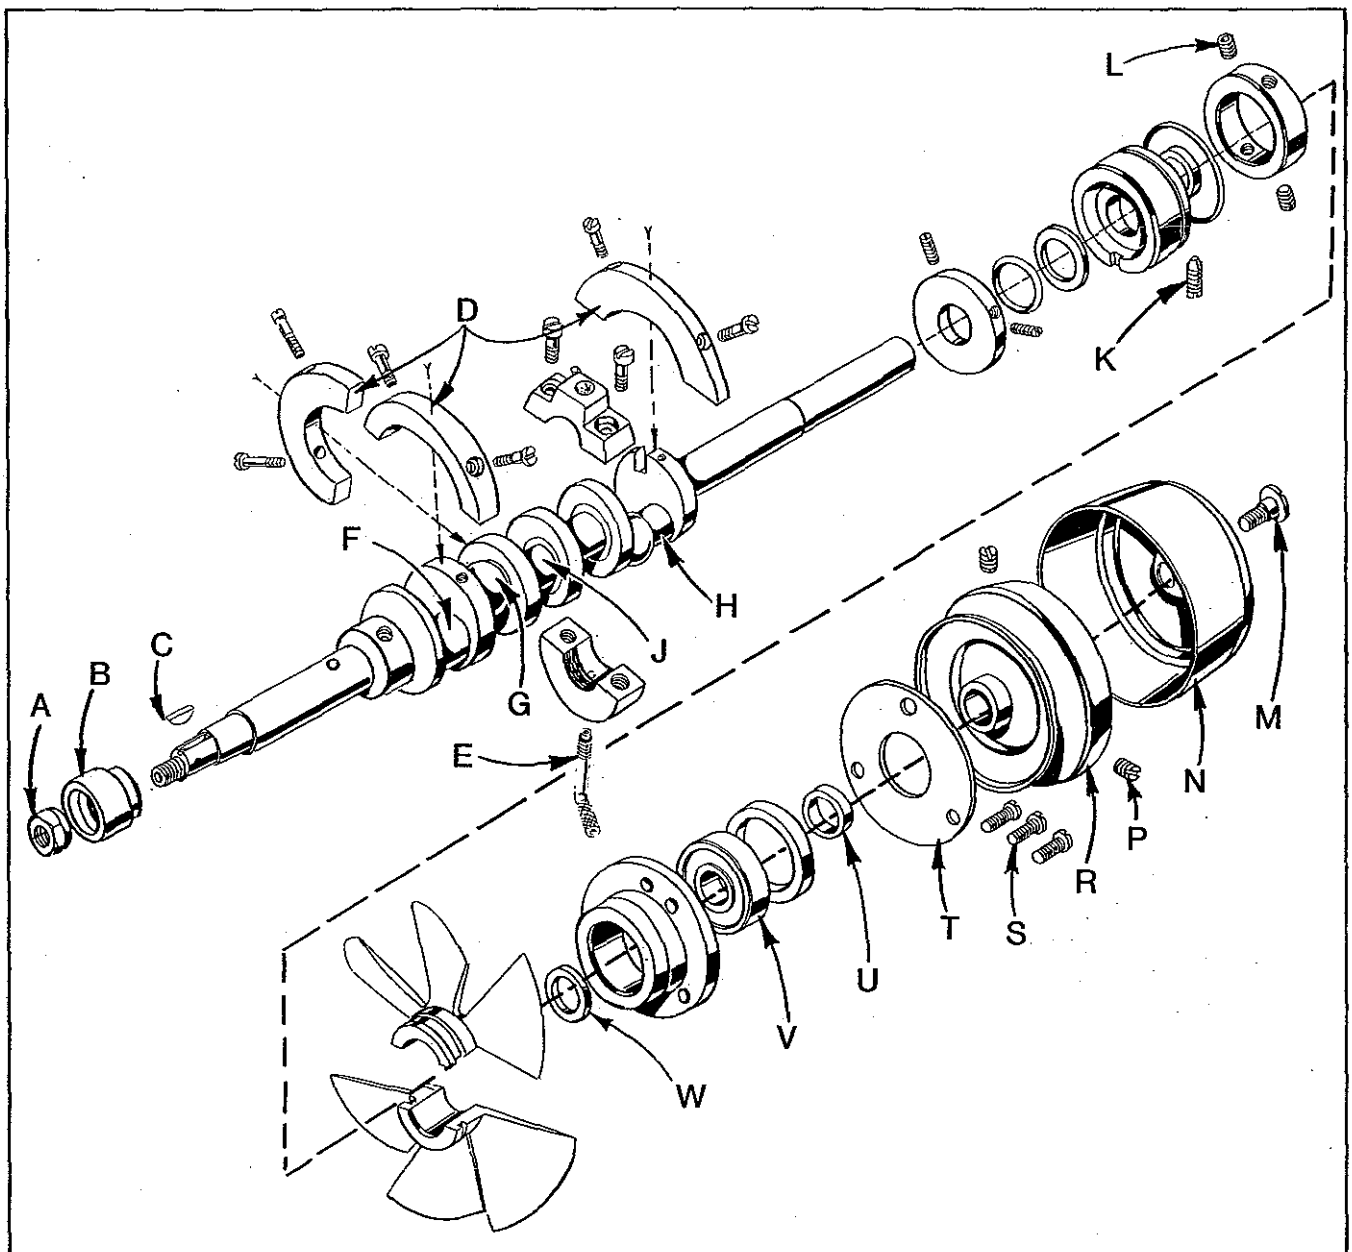
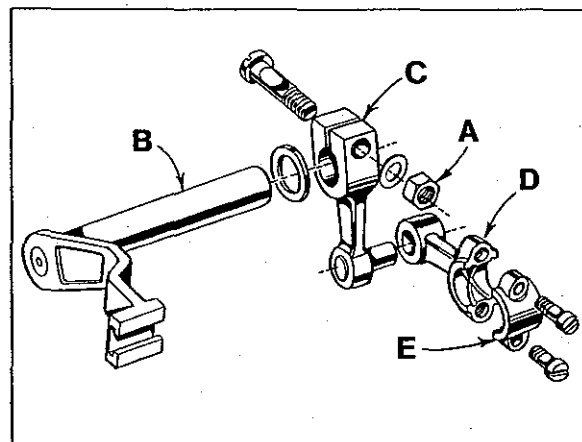

Fig. 27
Fig. 28
3. Remove feed eccentric nut (A, Fig. 27) and remove the eccentric (B).
4. Remove key (C).
5. Remove three counterweights (D). Identify these counterweights so that they will be re-assembled in the proper places.
6. Unscrew oil tube (E) which holds crankshaft split bearing and oil pump. This tube is reached through bottom of bed casting.
8. Loosen clamp nut (A, Fig. 28) which holds upper knife driving arm (B). Access to clamp nut is through top cover. Draw driving arm to the left until upper knife driving lever (C) and connecting rod (D) drop, allowing removal of bearing cap (E). This at bearing point (J, Fig. 27) on crankshaft. Observe same precautions while re-assembling cap as described in Step 7 above.
9. Remove screw (K, Fig. 27) which holds inner right crankshaft bearing. This screw is reached through bottom of bed casting.
10. Loosen two screws (L) in fan collar; remove both halves of cooling fan.
11. Remove screw (M); take off pulley cap (N).
12. Loosen two screws (P); remove pulley (R).
13. Remove three screws (S); take off bearing retaining plate (T); also, spacer collar (U) may be removed at this time.
15. If necessary to replace ball bearing (V), it should be pressed off shaft on an arbor press. In replacing bearing it must be pressed on carefully until it seats against ground thrust washer (W).